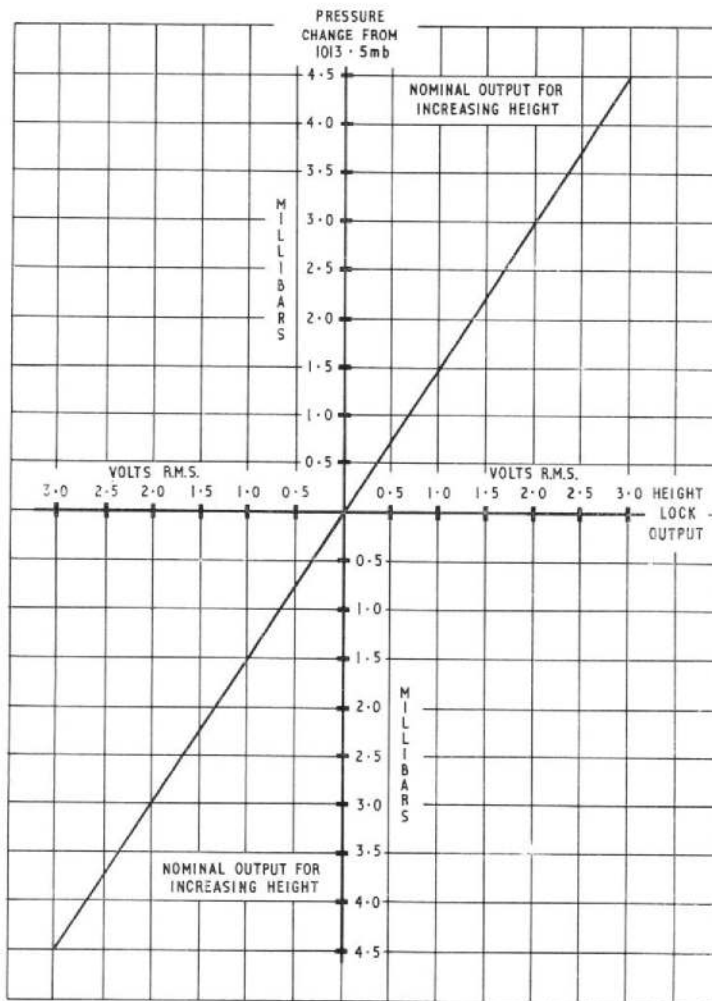

Fig. 2. Nominal height lock outputs
(9) Set S2(HLTP) to SERVO. Allow transducer servomechanism to settle then return S2 to the BAROMETRIC position.
(10) Increase the static pressure to the transducer from 1013.5 mb to 1017.5 mb, recording the readings obtained on the valve voltmeter for every 0.5 mb.
(11) Ensure that the signal continues to increase in the correct sense when the static pressure is increased beyond 1017.5 mb to 1019 mb and that saturation does not occur before an output voltage of 3.5V is obtained.
(12) Plot the outputs recorded in sub-para. (5) and (10) on a graph as in fig. 2. The positive and negative slopes must be within 5% of each other. The output must be $2.72V$ r.m.s. $\pm 5\%$, at 1009.5 mb and 1017.5 mb.
(13) Return the pressure on the static input of the transducer to the prevailing atmospheric pressure.
(14) Set S2 (HLTP) to SERVO.
(15) Disconnect the hose from the STATIC input adapter on the transducer.